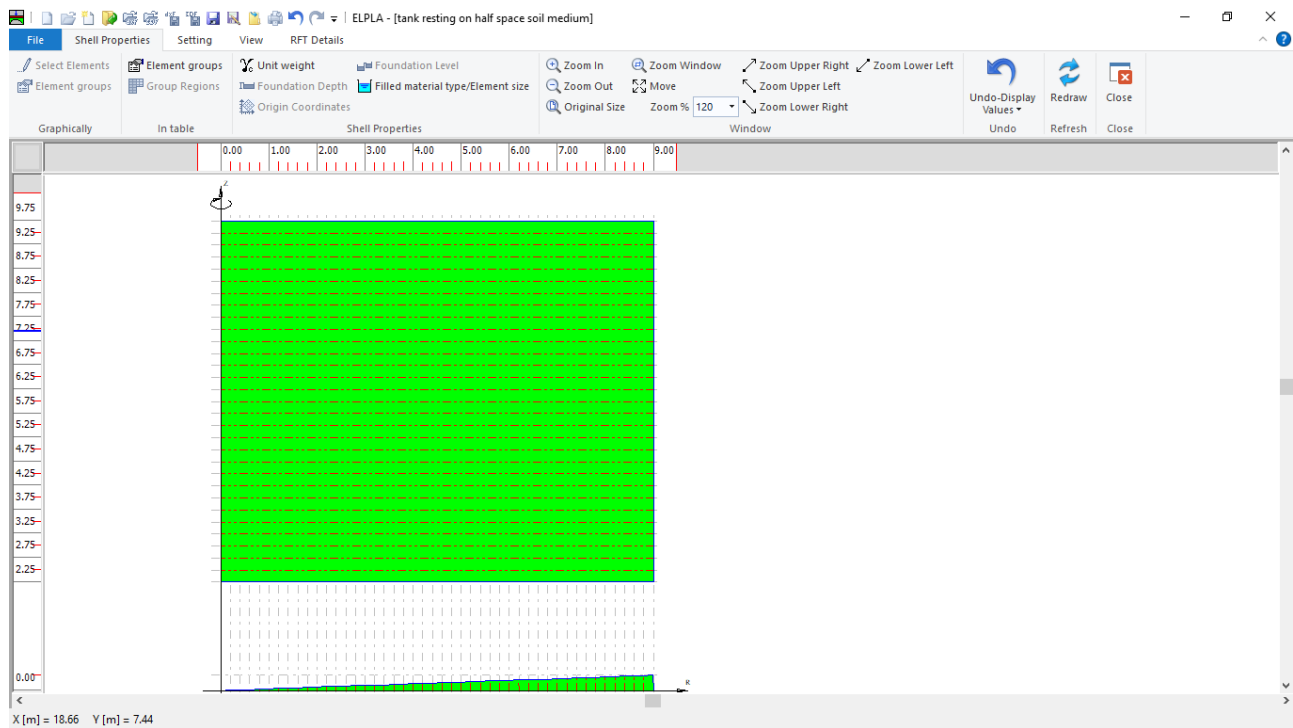
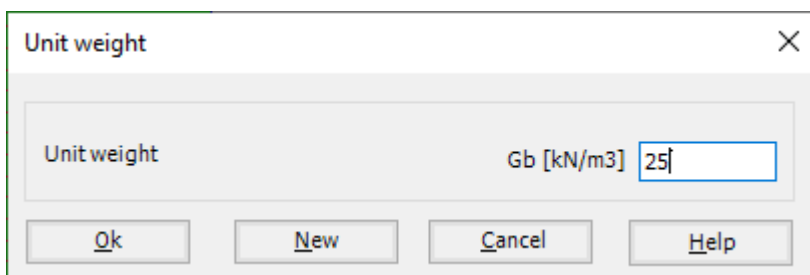

Figure 8.12 "Shell Properties" Window
Figure 8.14 "Unit weight" dialog box
To define the tank properties, choose "Shell Properties" command from "Data" Tab. The following window in Figure 8.12 appears with default shell properties. The data of shell properties for the current example, which are required to be defined, are element groups, unit weight of the tank, and filled material properties.
To enter the unit weight of the tank, choose "Unit weight" command from "Shell Properties" menu in Figure 8.12. The following dialog box in Figure 8.14 with a default unit weight of 25 [kN/m3] appears, click "OK" button.
To define the liquid properties of the shell, choose "Filled material type/Element size" command from "Shell Properties" menu in Figure 8.12. The following form in Figure 8.15 appears.
- Choose "Save" command from "File" menu in Figure 8.12 to save the shell properties
- Choose "Close" command from "File" menu in Figure 8.12 to close the "Shell properties" window and return to *ELPLA* main window